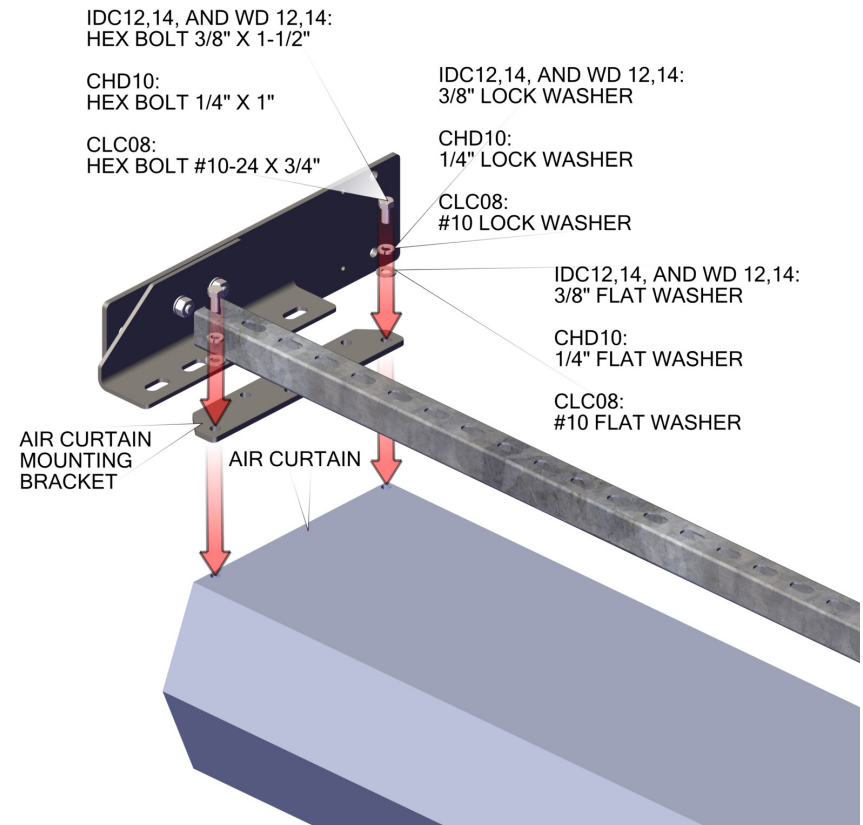

Figure 27
- Center and assemble the air curtain mounting bracket to the air curtain, see Figure 27.